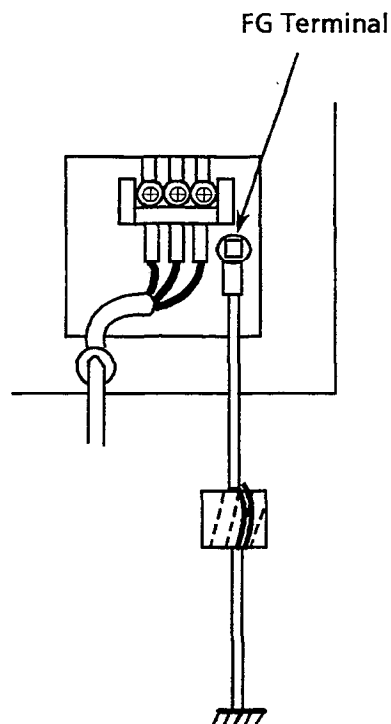

Figure 3-63 Level II Advanced KSU Grounding
- 2c. A grounding terminal is provided on the ESF-XB-10 KSU. Connect the grounding conductor to the hexagonal bolt with the green colored head terminal. Refer to Figure 3-63 - Level II Advanced KSU Grounding.